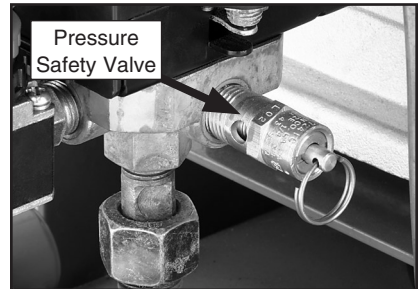

Figure 14. Pressure safety valve.
1. Locate the pressure safety valve shown in **Figure 14**.